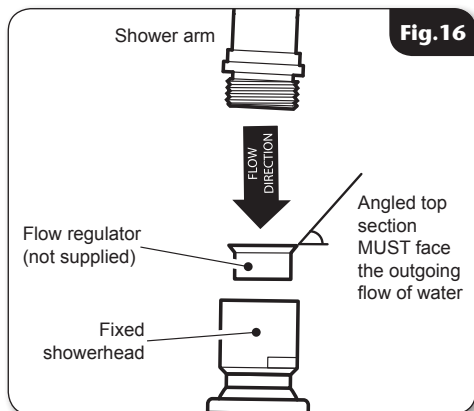

Fig. 16
The flow regulator for 15mm rigid pipe must be fitted into the showerhead - see (fig.16).
- Screw the fixed head (**fig.16**) to the shower arm.